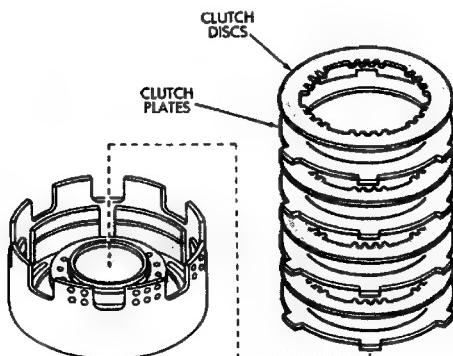

Fig. 11 Installing Direct Clutch Discs And Plates
- (4) Install clutch discs and plates (Fig. 11). Install plate then disc until all plates and discs are installed. Use four plates and discs in 6-cyl. transmissions and three plates and discs in 4-cyl. transmissions.